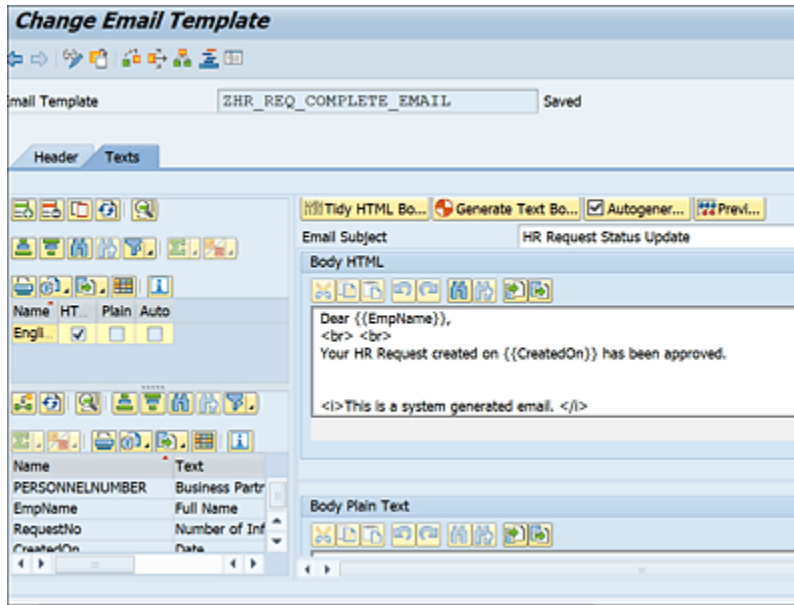

Figure 15.29 Email Templates Maintenance
3. The email subject and body should be created in SAP email templates. This template should use CDS view `ZI_WF_EMP_REQ`. Now the work item variables and the application object's values at runtime can be populated into the email body using the CDS view, as shown in Figure 15.29.